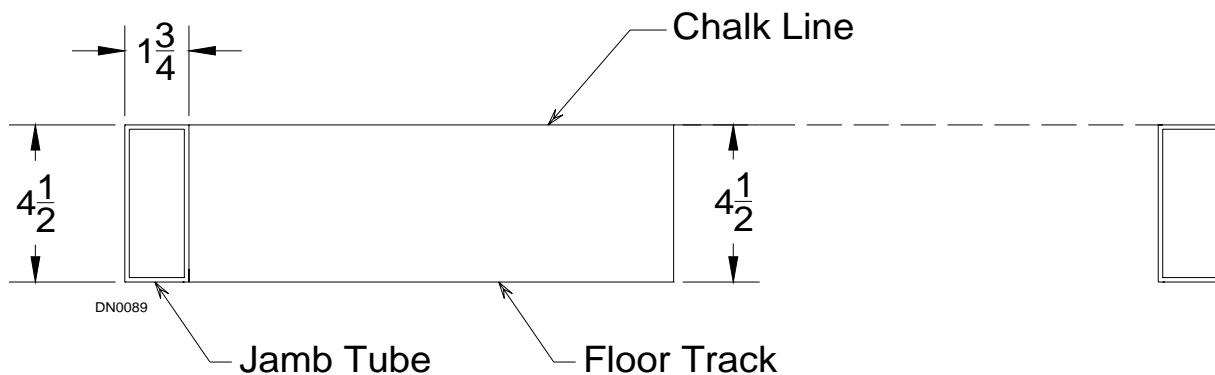

Figure 8
1. Snap chalk line on floor from jamb to jamb (see Figure 8) on interior side of building.
2. Extending the floor track across entire opening is optional. Contact customer service at (877) 622-2694 to order additional track.